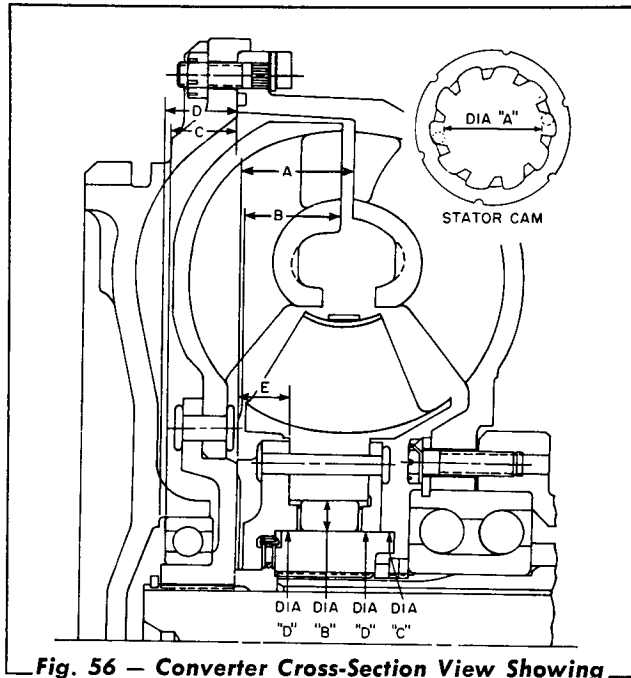

Fig. 56 — Converter Cross-Section View Showing Wear Limits
- Refer to Topic 4 for cleaning and inspection. Refer to Fig. 56 for wear limits.